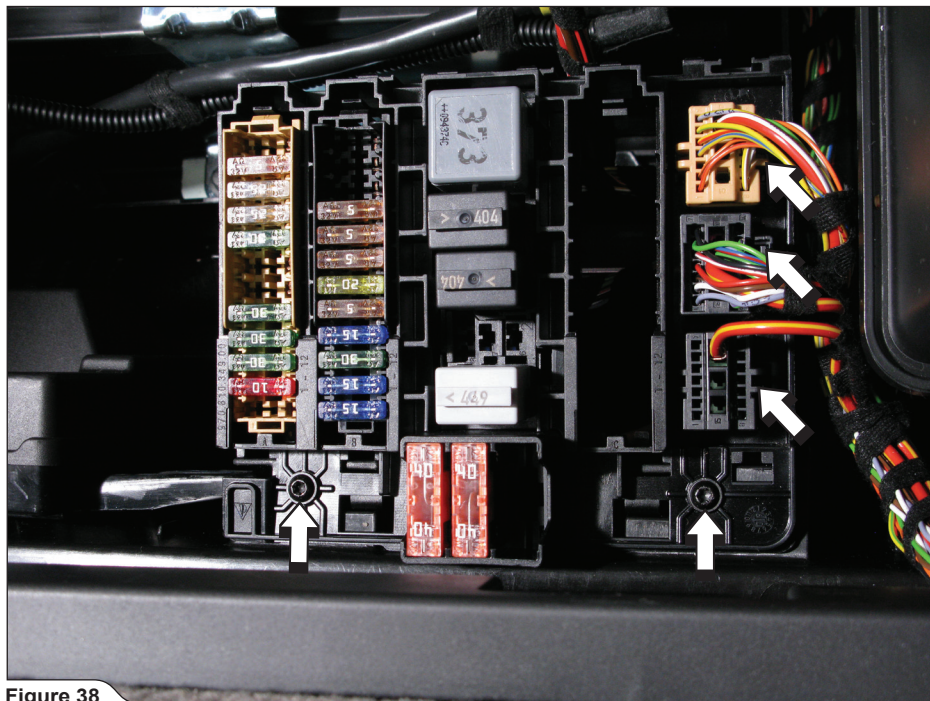

Figure 38
2. Disconnect the three marked connectors and unscrew the two fuse box bolts (Figure 38).